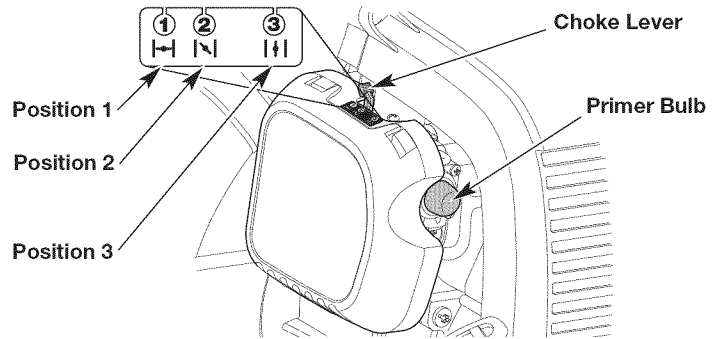

Fig. 11
3. Slowly press and release the primer bulb **10 times** (Fig. 11). If fuel cannot be seen in the primer bulb, press and release the primer bulb until fuel is visible.
4. Move the choke lever to **Position 1** (Fig. 11).
7. **DO NOT** squeeze the throttle control. Move the choke lever to **Position 2** (Fig. 11).
10. Continue to squeeze the throttle control. Move the choke lever to **Position 3** (Fig. 11) and continue warming the engine for an additional 60 seconds. The unit may be used during this time.
8. **DO NOT** squeeze the throttle control. Move the choke lever to **Position 2** (Fig. 11).
12. Continue to squeeze the throttle control. Move the choke lever to **Position 3** (Fig. 11) and continue warming the engine for an additional 60 seconds. The unit may be used during this time.